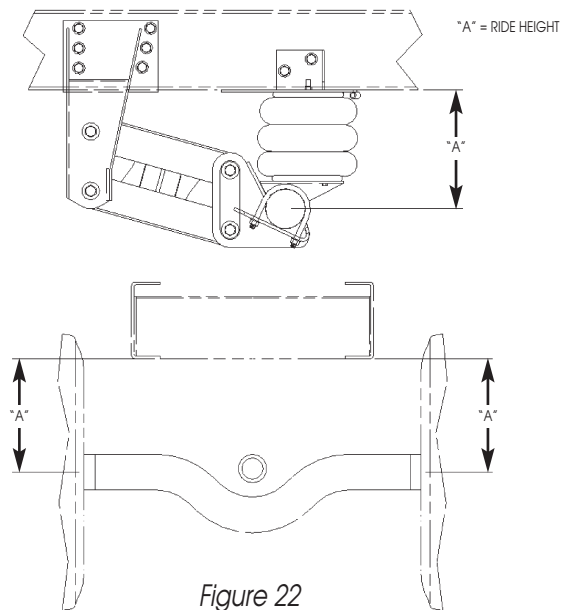

Figure 22
1. Set suspension(s) at the ride height specified on the suspension assembly drawing (See Figure 22). Adjust the wheels so they are straight toward the forward direction of travel.